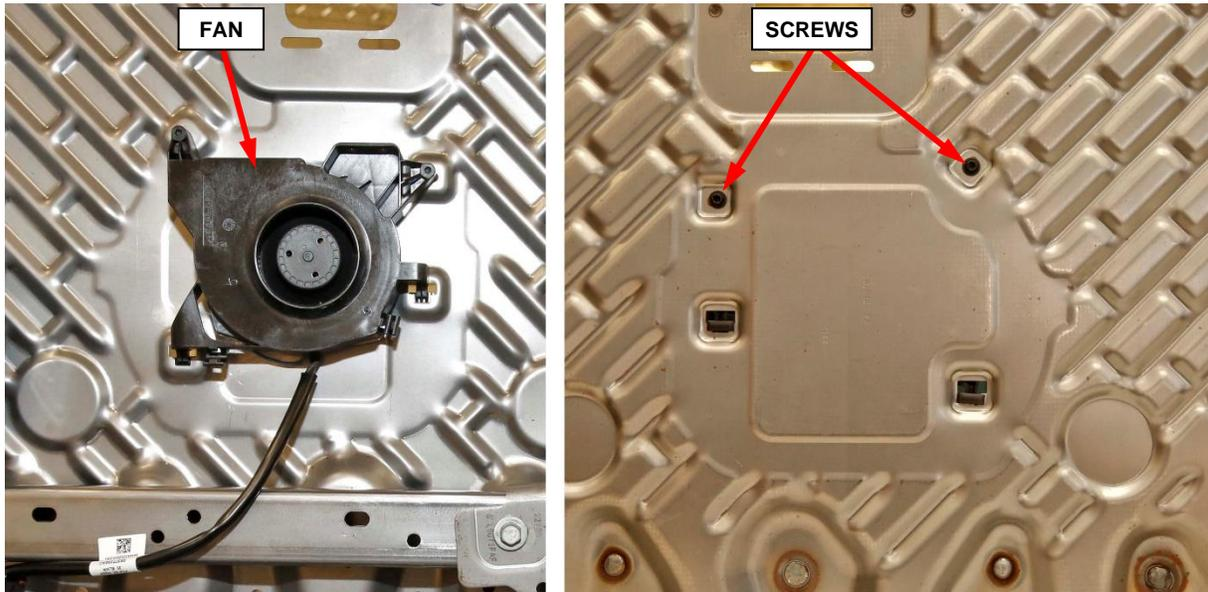

Figure 67 – Seat Fan
40. Remove the two screws securing the seat fan then remove the seat fan from the seat back frame (Figure 67).
42. Install the seat fan to the seat back frame then secure with the two screws (Figure 67).